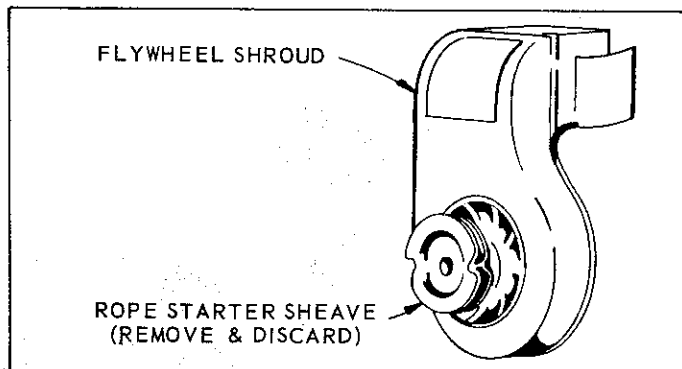

FIG. 1
- A. With reference to *Fig. 1*, remove and discard rope starter sheave, but retain 5/8 inch lockwasher for use in mounting drive cup to crankshaft.